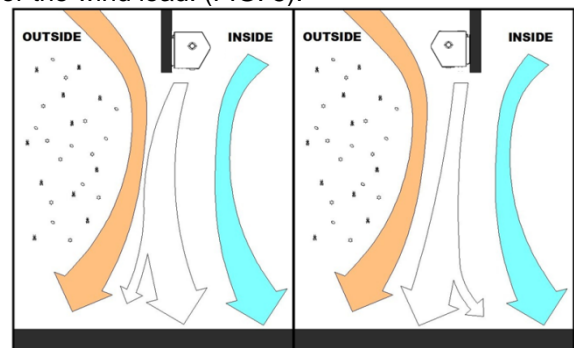

FIG. 5
- H. Regardless of whether the product is mounted on the inside or outside of the door opening, set the air directional vanes in the discharge nozzle slightly outward to approximately 10-15° towards the outside, or the wind load. (FIG. 5).